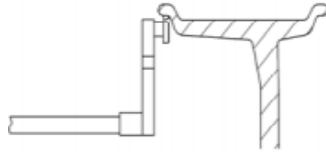
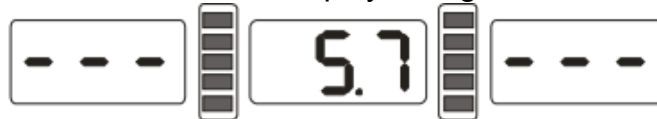

Figure 7-2
Figure 7-3
Rotate the measure scale, pull the scale head to inside concave on the edge of the rim, etc figure 7-2, first LED all off, then display ect figure 7-3, waiting put back scale.
10.2.1 Follow figure 7.2 input date of rim.
- 10.5.1 Follow figure 7.3 input date of rim.
- 10.5.5 Follow figure 7.3 input date of rim